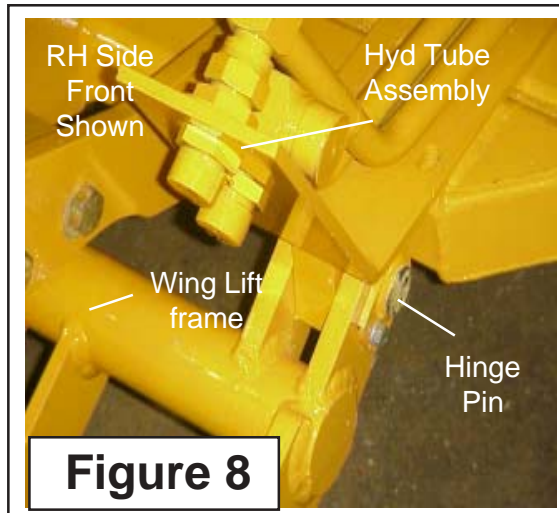

Figure 8
6. Install Lift Cylinder Mount Weldment. The lift cylinder mount is a bolt on weldment that bolts to the main frame with four bolts. The Left Hand and the right hand are not the same. The right hand side will have a mount welded to it to mount the control valve to (See Figure 8), the left hand mount will not have this plate welded to it. The LH & RH will bolt on the same way. Tighten the mounting bolts. Note the bracket also have the transport lugs welded to them.